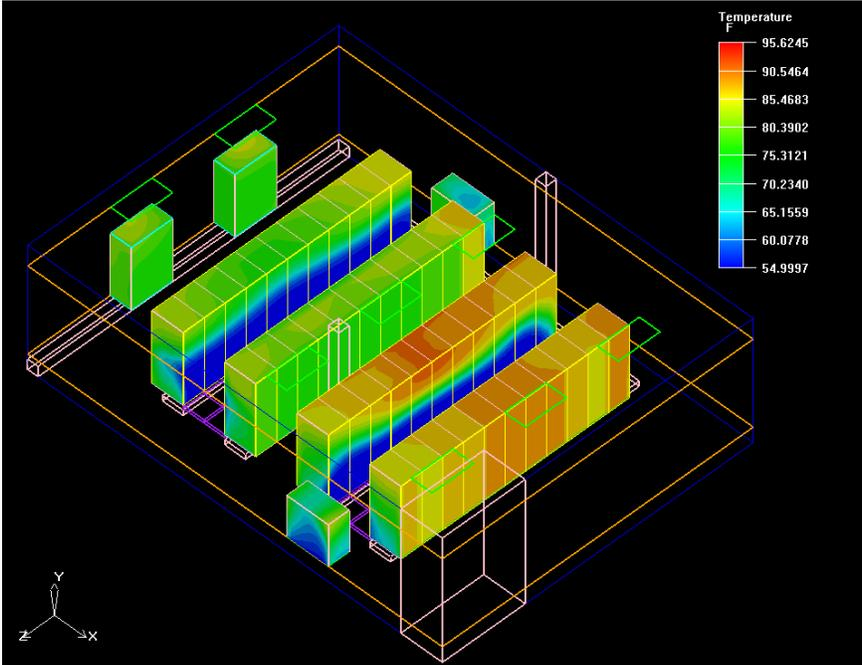

Figure 5.41: Contours of Temperature Display
- (c) Check the Show contours option and click Create on the Object face panel. The display will be updated to show the contours of temperature on the CRAC units, Racks and the PDUs as shown in Figure 5.41.